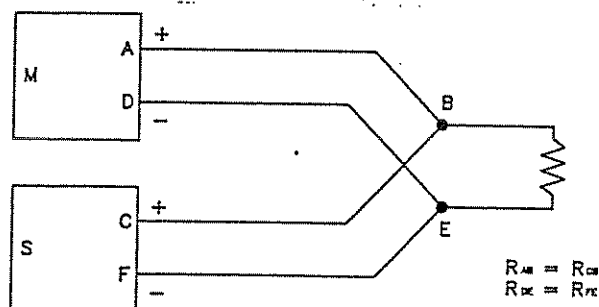

Figure 9. Parallel Operation
3.3.7 PARALLEL OPERATION (Figure 9)
1. Turn on all units (open circuit) and adjust to the appropriate output voltage, as in figure 9.
4. See Figure 9 for + and - voltage connection.